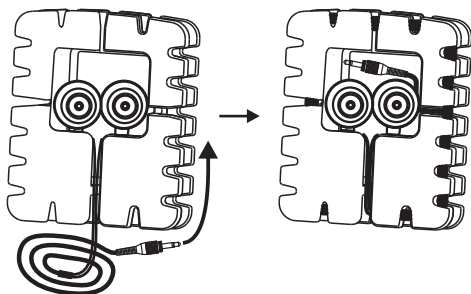

Fig. 17
4. Receiver Earphones Storage, Fig. 17: